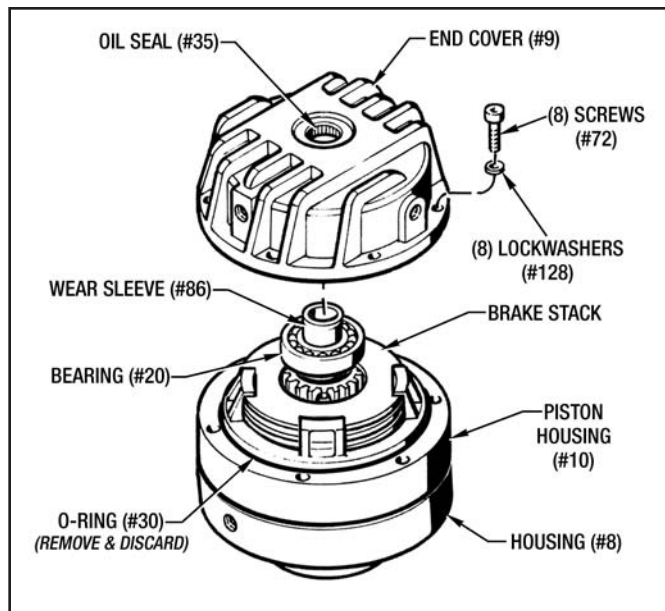

Figure 7.1 - Removing End Housing (#8)
2. Remove the (8) Screws (#72) and (8) Lockwashers (#128). Carefully lift the End Housing (#9) up off the brake. (See *Figure 7.1*)